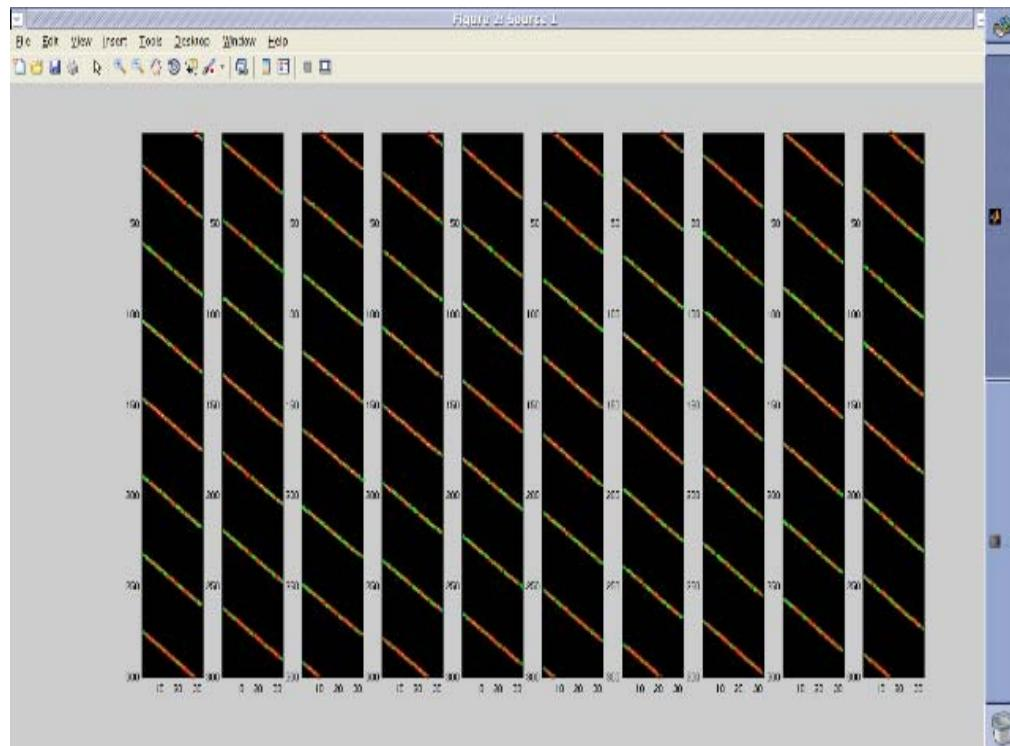

Figure 7-49
- h. Maximize the projection image to check the result. Estimated projections are shown as green crosses, while the centroids from real projections are shown as red circles. The two should closely match each other. (Figure 7-49):